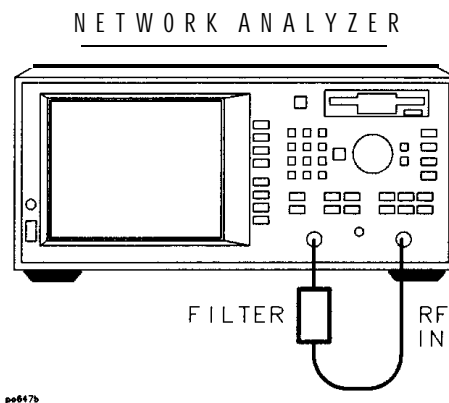

Figure 4-2. Connect the Filter to the Analyzer
1. To follow along with this example you will need to connect a notch filter to the analyzer in place of the bandpass filter shown in Figure 4-2.